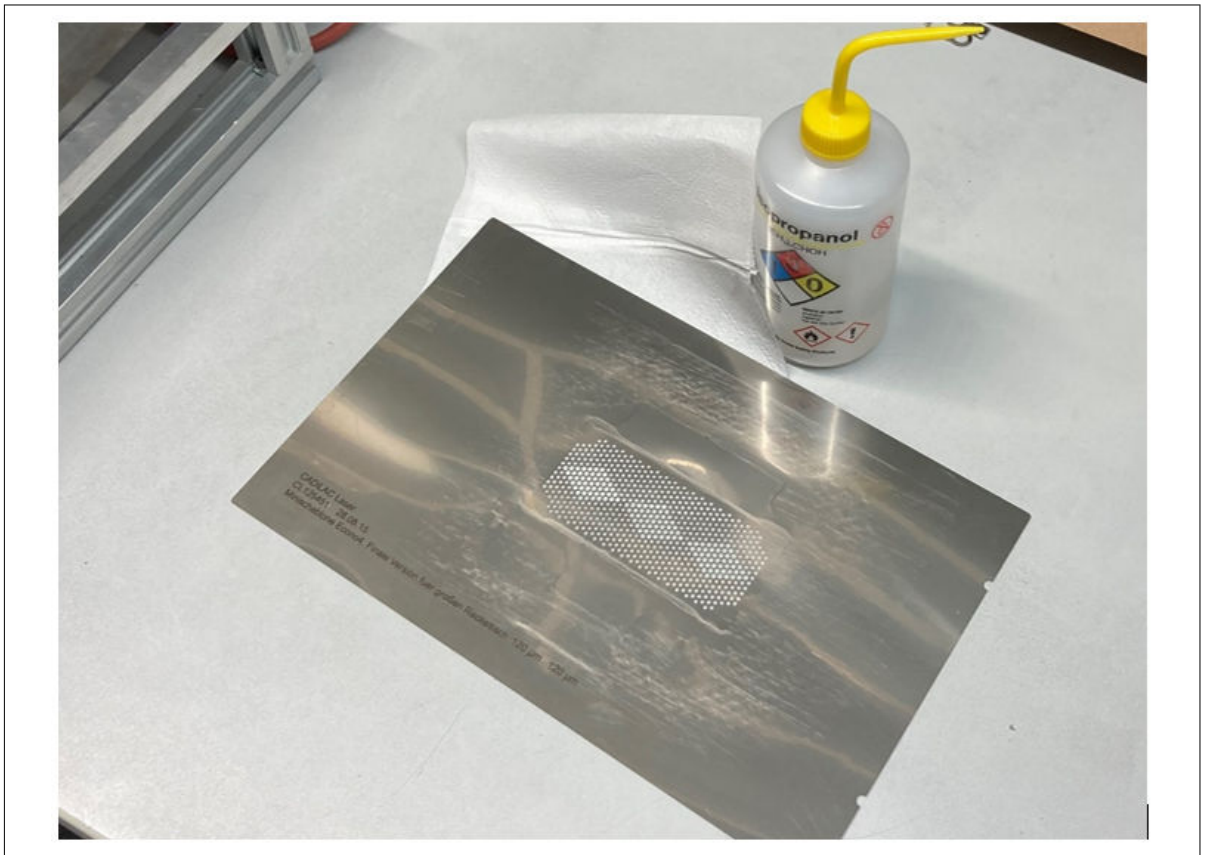

Figure 3 Cleaning the screen-printing template
1. Clean the dirt and residue from the heat sink and template by using isopropyl or ethylene alcohol according to Figure 3.